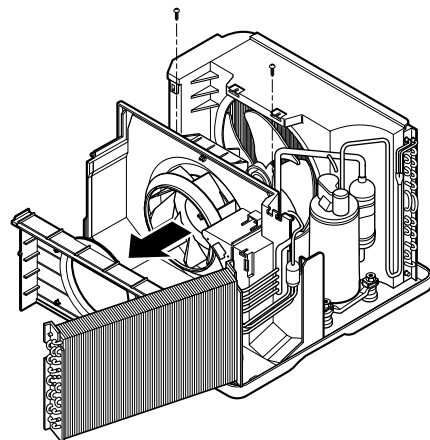

Figure 6
10. Pull out the hook of orifice by pushing the tabs and remove it. (See Figure 6)